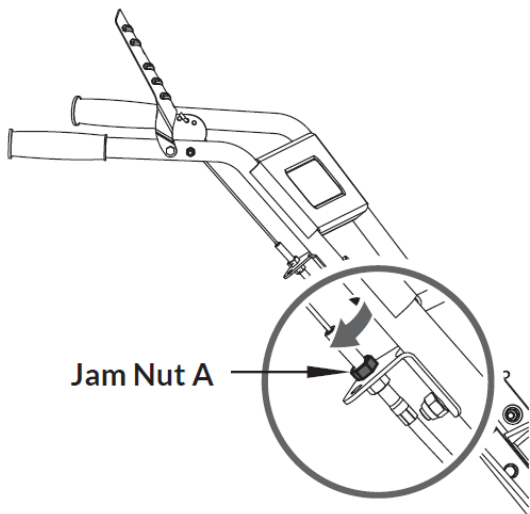

Figure 26
3. Hold Jam Nut "B" in position against the Bracket with the Wrench as you tighten Jam Nut "A" down against the Bracket to lock the Cable in place (**Figure 26**).